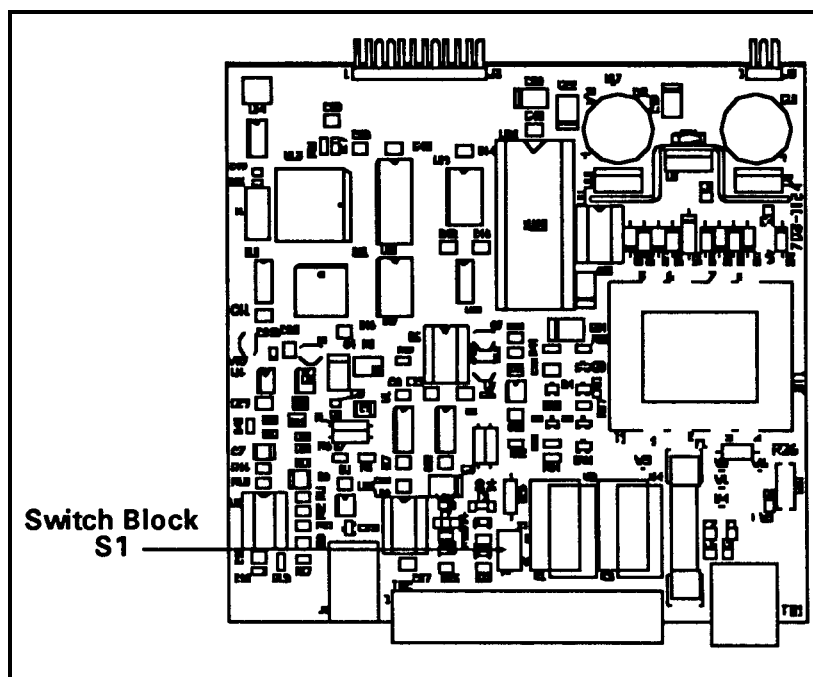

Figure 2-5: Switch Block Location
3. Locate switch block S1 next to the relays. (See Figure 2-5 for switch block location.)